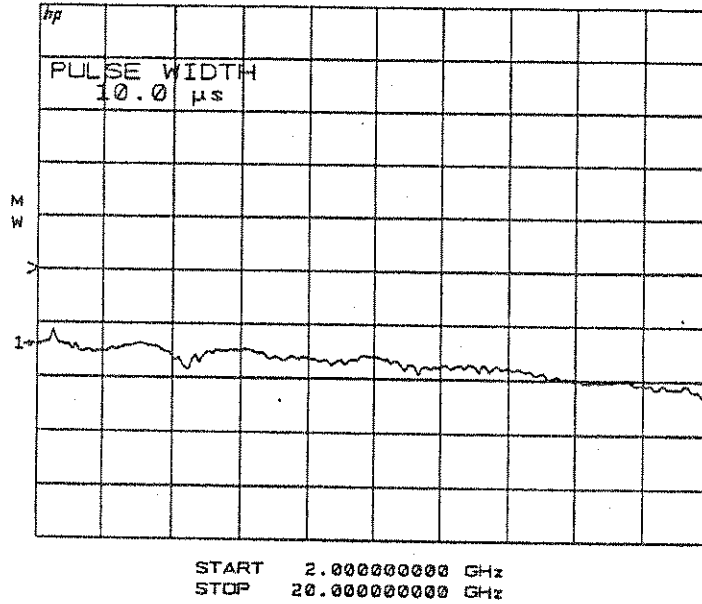
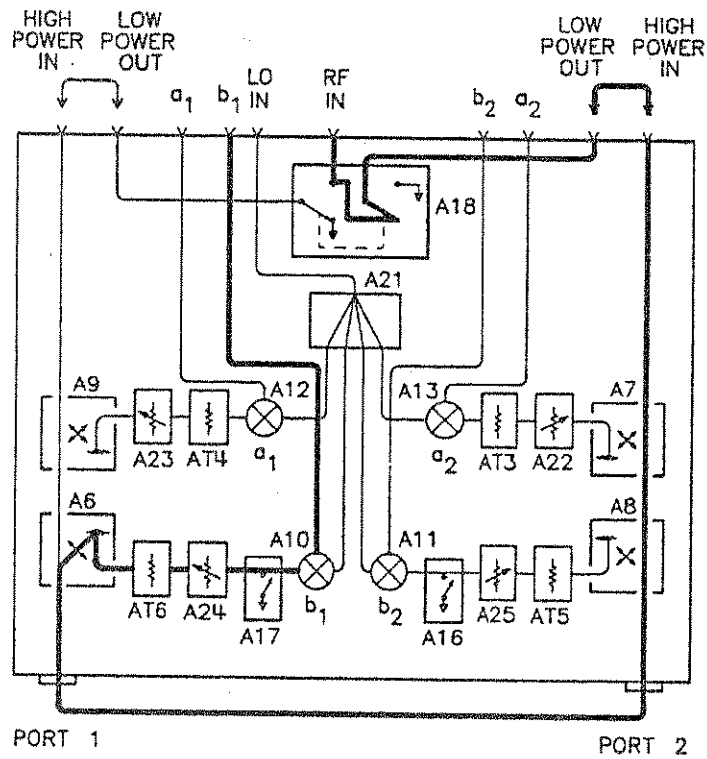

Figure 5-7. Typical b1 Thru Signal Trace
Figure 5-7a. b1 Thru Signal Path
7. Press PARAMETER [MENU] [USER 4 b1] [REDEFINE PARAMETER] [DRIVE] [PORT 2] [PHASE LOCK] [a2] [REDEFINE DONE] and observe the b1 power level trace shown by Figure 5-7. If the power level is not within +5 dB of that shown in the figure, refer to the procedure titled *If Any User Channels Look Bad* at the end of this section. Figure 5-7a identifies the RF signal path and components which affect the b1 thru signal path.